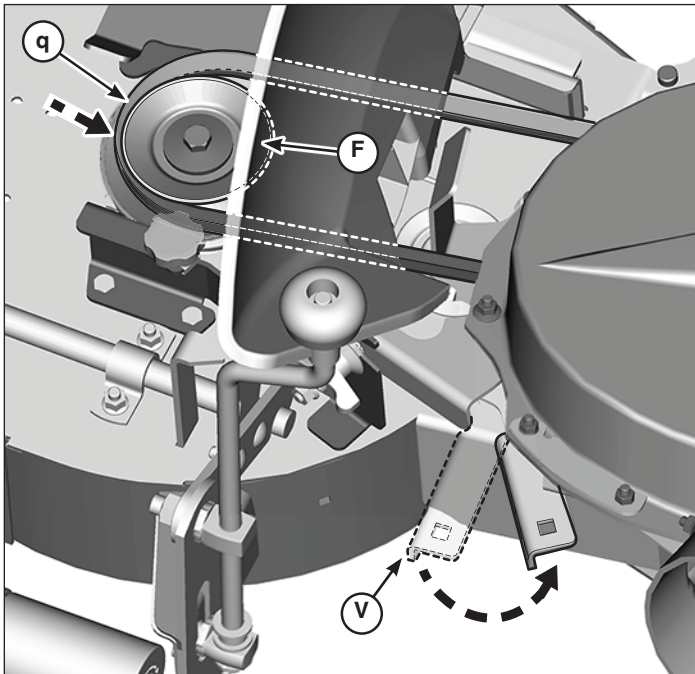

Figure 34
7. Remove turbo belt (q, Figure 34) from top pulley (F) of pulley assembly by pulling back on the idler arm (v) to loosen tension.